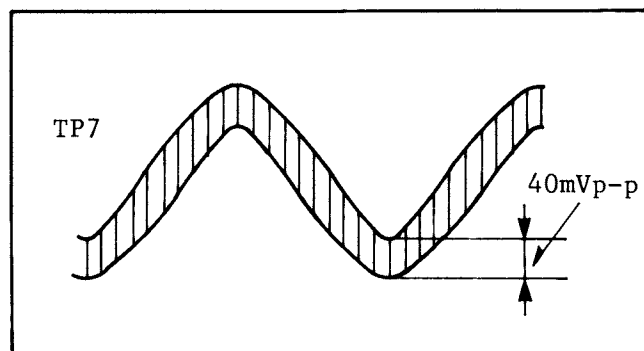

Fig. 16. Q RECORDING CURRENT
13. Adjust VR12 (Q CURR) to 40mVp-p at TP7 as shown in Fig. 16.